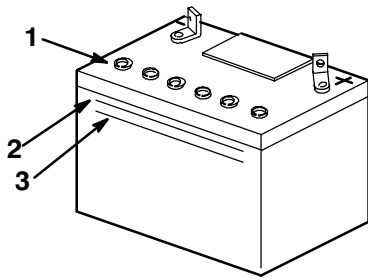

Figure 1
3. Remove the vent caps from the battery (Fig. 1). Slowly pour electrolyte into each battery cell until the electrolyte level is up to the Upper line on the battery case (Fig. 1).
4. Wait five to ten minutes after filling the battery cells. Add electrolyte, if necessary, until the electrolyte level is up to the Upper line (Fig. 1) on the battery case.